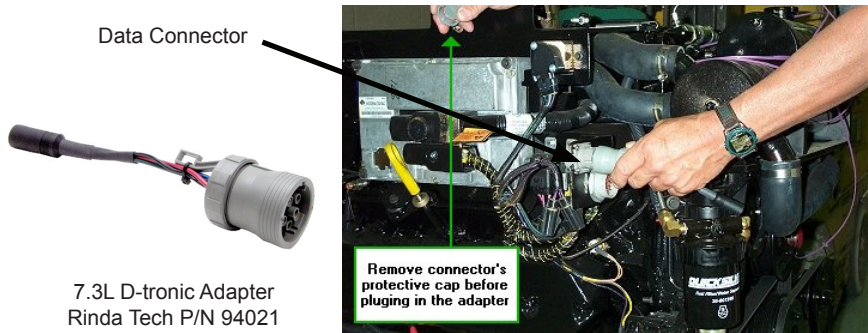

Figure 36
The TechMate scan tool fully supports the D-Tronic fuel injection system found on 1997-Up 7.3L MerCruiser diesel engines. The 7.3L D-Tronic system is equipped with a diagnostic data connector which is located near the rear of the engine as shown in Figure 36. Please note that Cummins and VW diesel engines are NOT supported.
- 1) Locate the D-Tronic data connector as shown in Figure 36. Remove the data connector's protective cover.